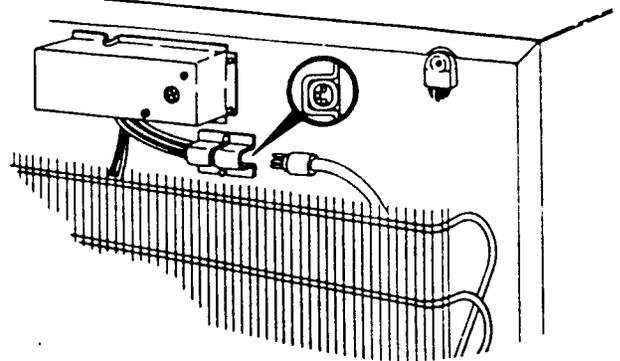

Figure 12 Ice maker wiring harness connection
2. Locate the 3-pronged plug on the ice maker harness. Connect it to the receptacle located under the metal clamp on the cabinet back (see figure 12). The plug must be inserted all the way in to insure electrical contact.